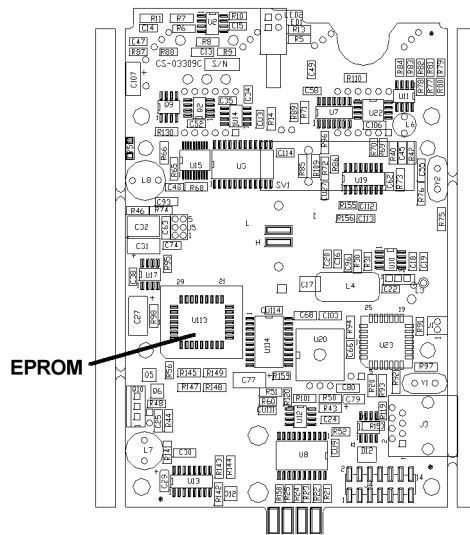

Figure 7-14: Replacing EPROM
2. Remove the EPROM from its socket (on the CO2 board) using an IC extractor. (Refer to Figure 7-14: Replacing EPROM.)